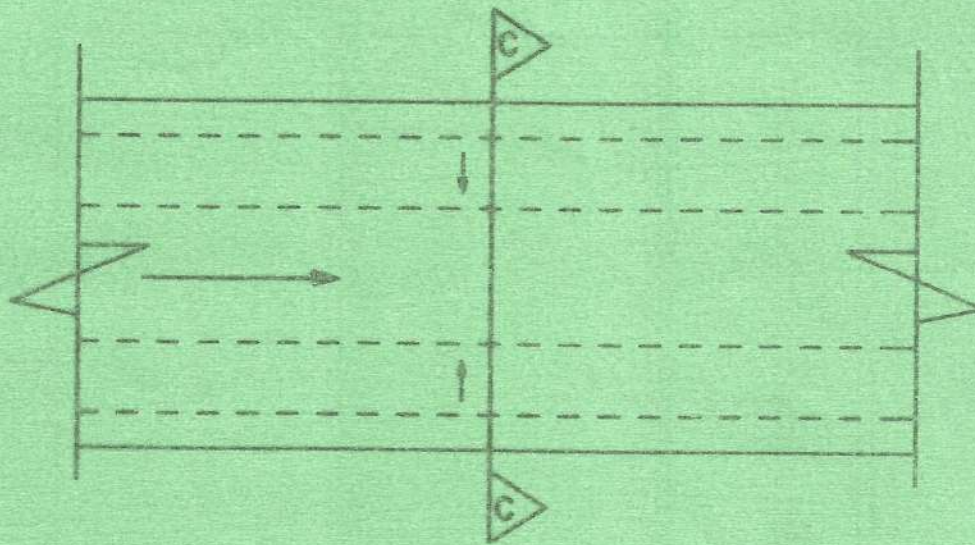

Fig. 4
6. **Figure 4** shows a plan section of a closed storm water drain. To a scale of 1:10, draw section C - C using the data given.